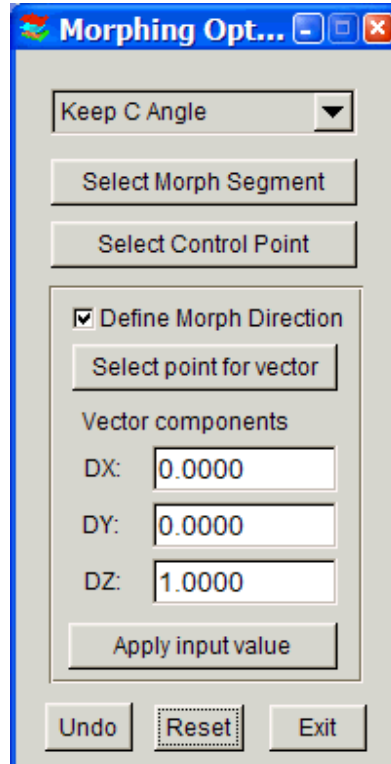

Figure 6.4.1 Line Morphing
2. After selecting a line, the program displays the Morphing Line dialog window as shown in Figure 6.4.1.